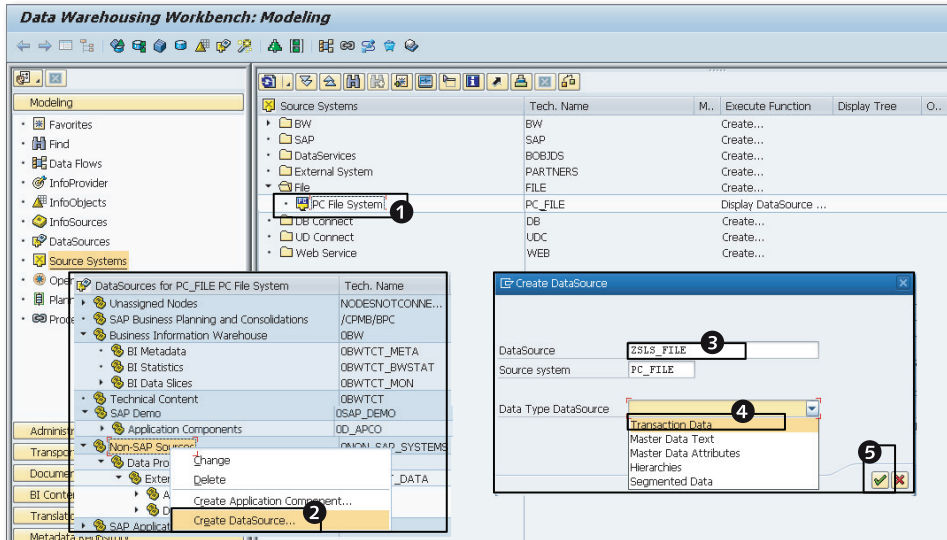
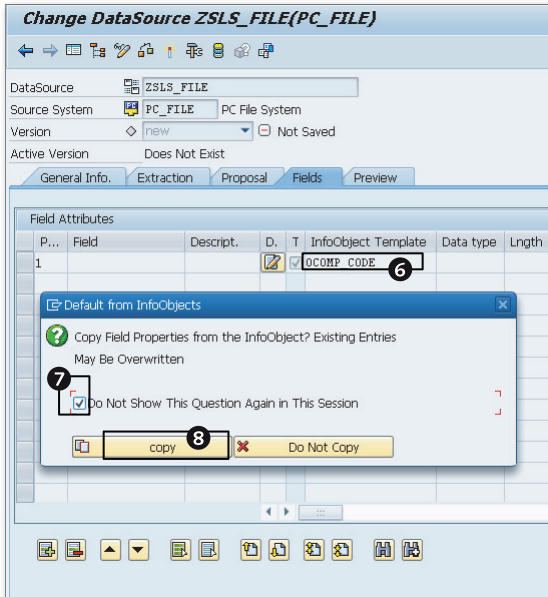
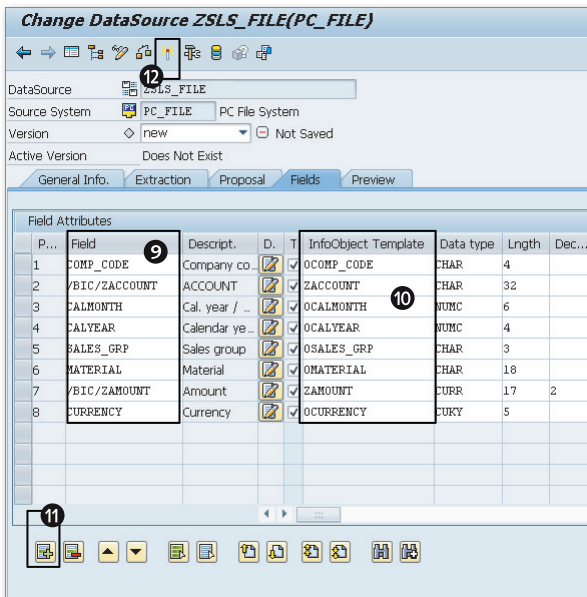

Figure 4.2 Create a Flat File DataSource for Sales Data—Part A
Figure 4.3 Create a Flat File DataSource for Sales Data—Part B
Figure 4.4 Create a Flat File DataSource for Sales Data—Part C
Next, perform the following steps to create the DataSource, as illustrated in Figure 4.2, Figure 4.3, and Figure 4.4:
3. Select and double-click on a flat file source system for creating the DataSource. We used the PC FILE SYSTEM (Figure 4.2, ❶).
4. The DATASOURCES FOR THE <FILE SYSTEM> dialog box appears (in this case, PC_FILE PC FILE SYSTEM). Select any application component area (e.g., NON-SAP_SOURCES), right-click, and select CREATE DATASOURCE from the context menu (Figure 4.2, ❷).
5. In the CREATE DATASOURCE window, enter the name of the DataSource ("ZSLS_FILE") (Figure 4.2, ❸), and then select TRANSACTION DATA from the DATA TYPE DATASOURCE dropdown list (Figure 4.2, ❹).
6. Click on ENTER (Figure 4.2, ❺).
8. On the FIELDS tab, enter the list of fields for which data exists in the flat file. The sequence you use is the same as the one used for the data in the flat file. Instead of entering a field name, you can enter the name of an InfoObject in the first row of the INFOOBJECT TEMPLATE column (Figure 4.3, 6) that represents the field.
9. After you enter the first InfoObject ("0COMP_CODE") and click on ENTER, the DEFAULT FROM INFOOBJECTS dialog box appears (Figure 4.3). Select DO NOT SHOW THIS QUESTION AGAIN IN THIS SESSION, and click on COPY (Figure 4.3, 7 and 8). This transfers all of the properties from the InfoObject to the corresponding field in the FIELD column (Figure 4.4, 9).
10. Continue to enter InfoObjects into the INFOOBJECT TEMPLATE column (Figure 4.4, 10) by clicking on the INSERT button (Figure 4.4, 11), following the sequence of data coming from the flat file that contains the sales and cost data for 2011.
11. Click on the ACTIVATE button to save and activate the DataSource (Figure 4.4, 12).